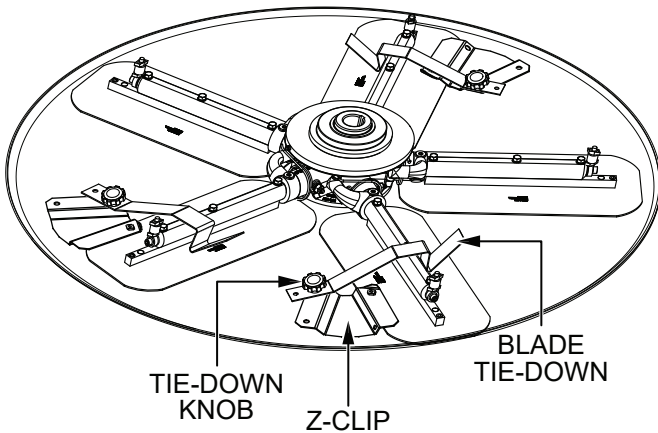

Figure 61. Float Pan Installation (Z-Clips)
3. Attach the blade tie-downs to the far side of the Z-clips using the tie-down knobs as shown in Figure 61.